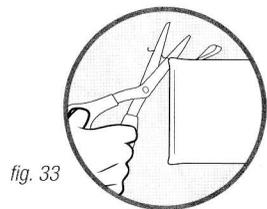

fig. 33
- 2 If there are loose threads on the cleaning pocket carefully cut the thread with scissors. Don't pull on them or cut at the base. (fig. 33)